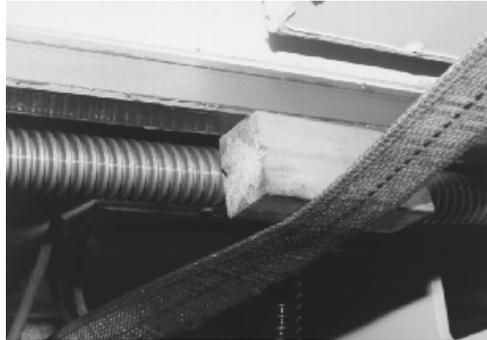

Figure 4
Lifting straps may also be used to lift the machine by placing the straps around the front and rear of the table. When straps are used in this way, wood blocks must be placed beside the lead screw to prevent damage, (Figure 4). A bent lead screw will cause the backgauge to bind.
3. Lift the table out of the dutch box and turn it right side up. *NOTE:* Be careful not to damage or bend the lead screw or backgauge drive motor assembly. Use wood blocks beside the screw if straps are used (Figure 4 on page 13).
6. After locating the table, install the eight (8) table bolts. Seat the taper pins and tighten the bolts.